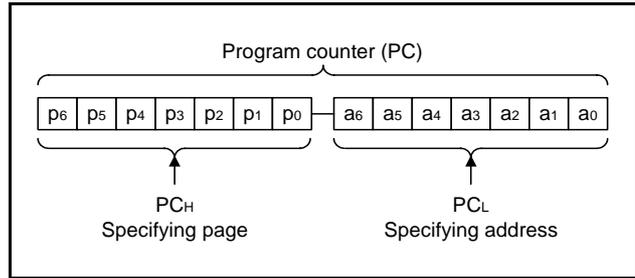

Fig 18. Program counter (PC) structure
(8) Program counter (PC)
Program counter (PC) is used to specify a ROM address (page and address). It determines a sequence in which instructions stored in ROM are read. It is a binary counter that increments the number of instruction bytes each time an instruction is executed. However, the value changes to a specified address when branch instructions, subroutine call instructions, return instructions, or the table reference instruction (TABP p) is executed. Program counter consists of PCH (most significant bit to bit 7) which specifies to a ROM page and PCL (bits 6 to 0) which specifies an address within a page. After it reaches the last address (address 127) of a page, it specifies address 0 of the next page (Figure 18). Make sure that the PCH does not specify after the last page of the built-in ROM.